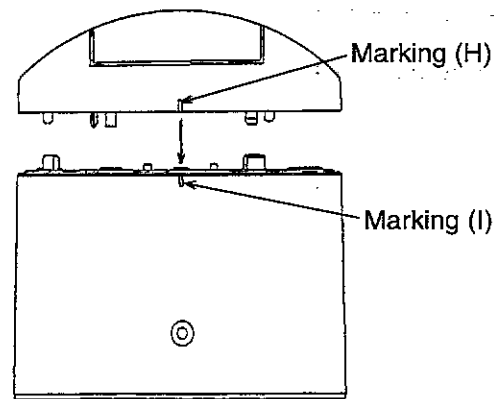

Fig. 18
Note: When assembling the speaker cover, set the marking (H) and (I) as shown in Fig.18.